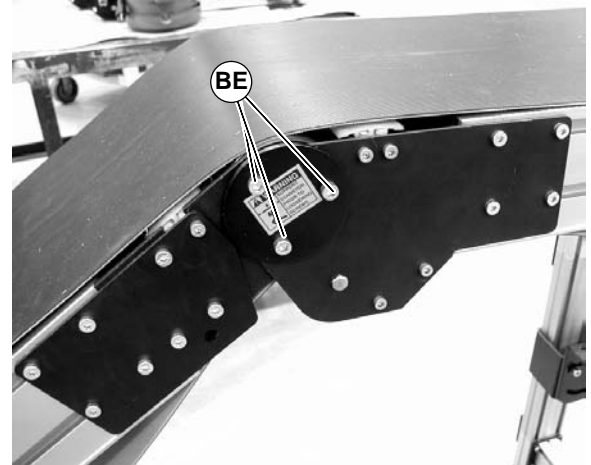

Figure 41
2. Loosen screws (BE of Figure 41) on both sides of knuckle.
4. Tighten screws (BE of Figure 41) on both sides of knuckle to 100 in-lbs (12 N-m).